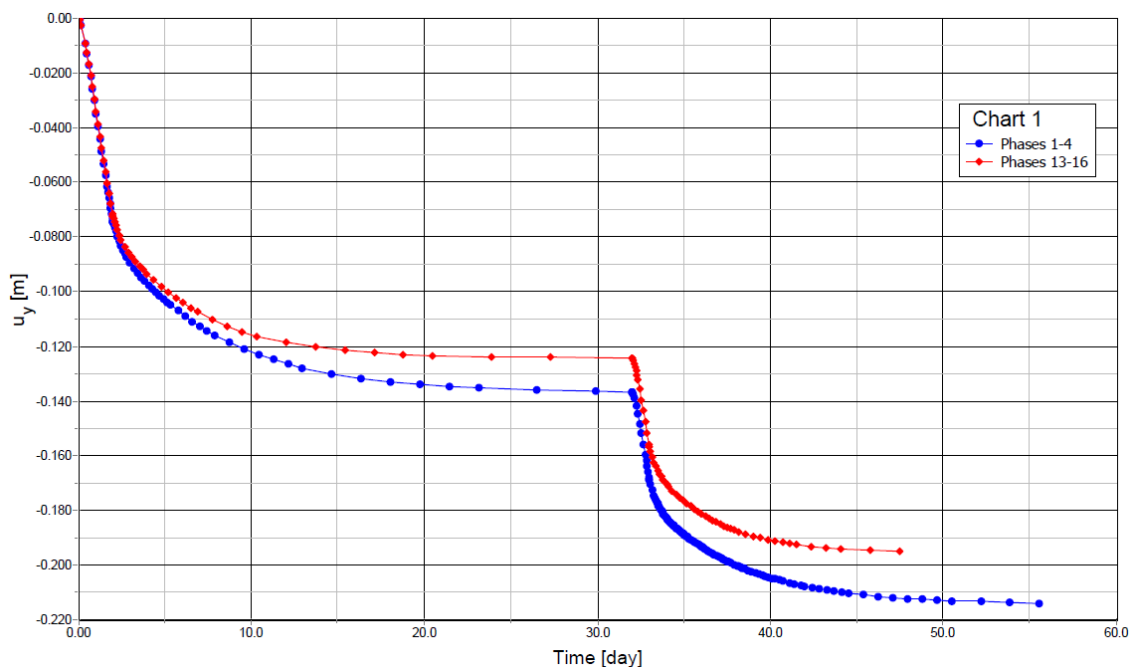

Figure 9-23: Effect of updated mesh and water pressures analysis on resulting settlements
- 9 In this curve the results for Initial phase and phases from 13 to 16 will be considered. The resulting chart is shown in Figure 9-23 \(p. 165\).